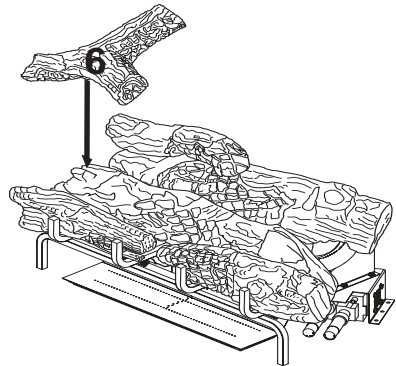

Figure 33 - Installing Log # 6
6. Place the left top front log (#6) on the top of the middle log and the left top back log. Match the rectangular projection on top of the middle log with the rectangular hole on the bottom of the left top front log. The left top front log will rest on the flat part of the left top back log. See Figure 33.